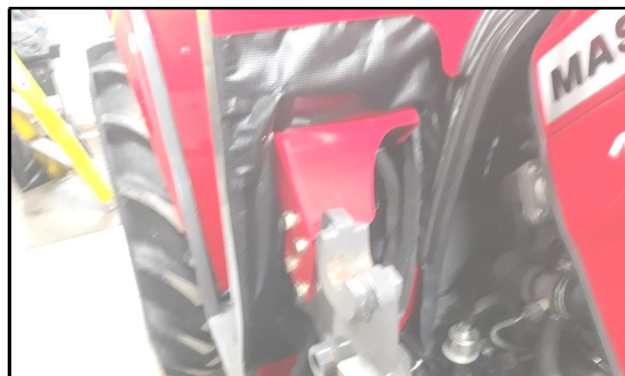

Fig. 20.4 (Secure Side Of Filler)
- 20.4** Make sure the top edge of the filler overlaps the cowl enough and then secure the side of the filler to the side frame tube. See Figure 20.4.